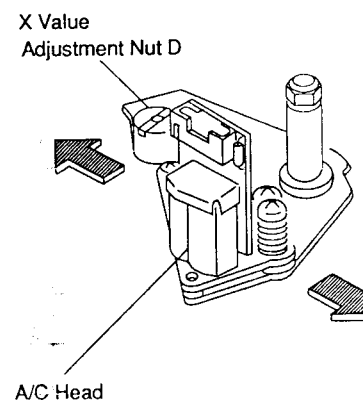

Fig. M7
4. Adjust the X Value Adjustment Nut D in Fig. M7 for maximum PB FM signal.